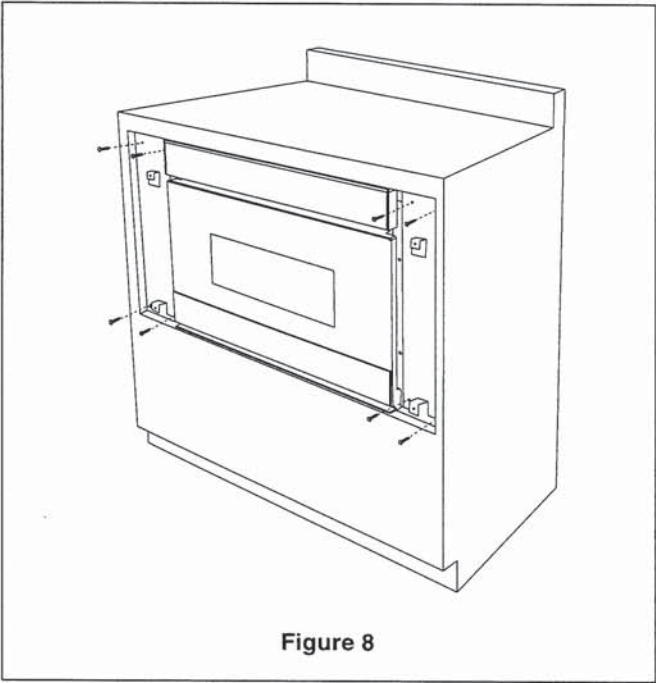

Figure 8
9. Using the 4 holes on each bracket as a template, pre-drill the cabinet using a 1/16" (1.6 mm) bit. Secure the mounting brackets to cabinet with the 8 bracket screws provided. See Figure 8.